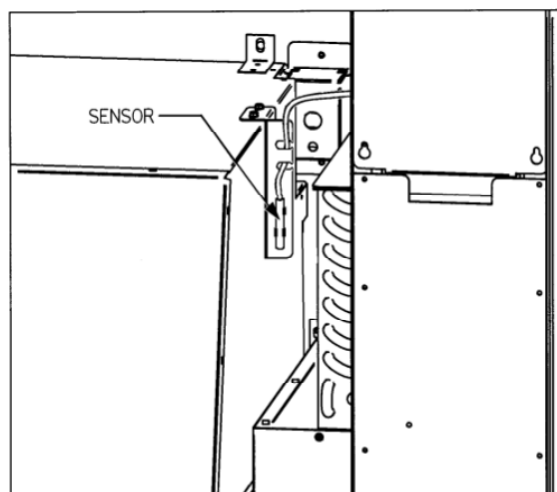

Figure 8.4 Temperature Sensor
4. The sensor is mounted to its bracket using two spring clamps (Refer to Figure 8.4). To remove it, first unwrap the sensor wire from the two slots in the bracket, and then slide the sensor out of the two spring clamps.